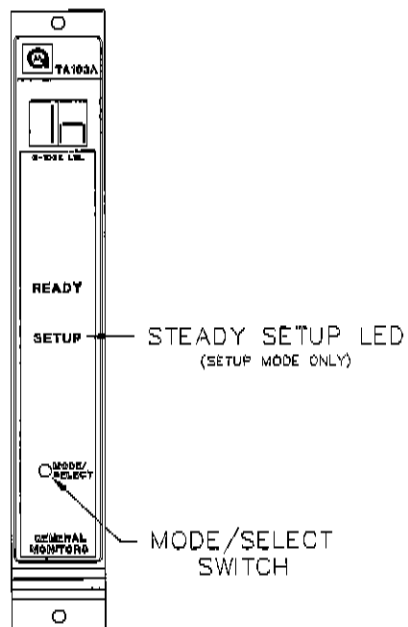

Figure 15
- This option applies to the Setup Mode only: If the password option is disabled, or after the correct password has been entered, the display will indicate **In** for five seconds (figure 15). Pressing the Mode/Select switch while **In** is displayed, will cause the unit to enter the Inhibit mode by inhibiting the alarm outputs. After the Model TA102A has entered the Inhibit mode, pressing the Mode/Select switch causes the unit to return to normal operation (see section 5.3). If it is desired to enter the Setup Mode, do not press the Mode/Select switch for the five seconds that **In** is displayed.
combustible gas is present. If the password option is disabled, or after the correct password has been entered, the display will indicate **In** for five seconds (figure 15 on page 19). Pressing the Mode/Select switch while **In** is displayed, will cause the unit to enter the Inhibit mode by inhibiting the alarm outputs. After the Model TA102A has entered the Inhibit mode, pressing the Mode/Select switch causes the unit to return to normal operation. If it is desired to enter the Setup Mode, do not press the Mode/Select switch for the five seconds that **In** is displayed.